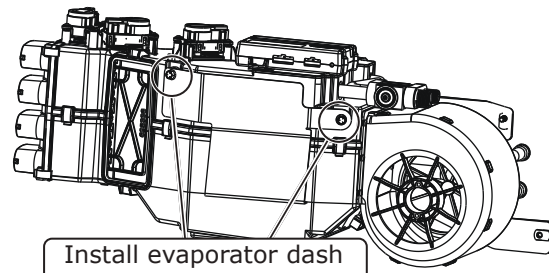

Figure 2
6. Remove the support board and install the evaporator dash bracket onto the evaporator module as shown in Figure 2, below, using (2) 1/4-20 x 1" serrated flange bolts.
7. Install the defrost plenum using (2) spring clips (See Photos 10 and 11, below).
8. From the engine compartment, replace the (2) full-length studs with (2) 1/4-20 x 3/4" serrated flange black bolts and install (2) more of the same bolts to secure the bottom of the (2) evaporator brackets (See Photo 12, below). **NOTE: Do not fully tighten hardware yet.**
9. Reinstall the previously removed (2) OEM dash mounting bolts from Photos 2 and 3, Page 20.